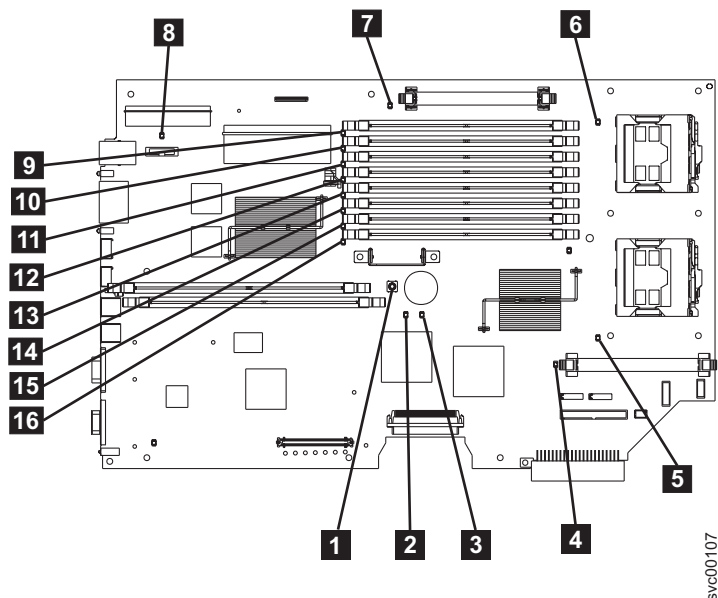

Figure 103. SAN Volume Controller 2145-8F2 and SAN Volume Controller 2145-8F4 system board LEDs
- YES** See Table 62 on page 265 and perform the action specified for the specific light path diagnostics LEDs, then go to step 3 on page 267. Some actions will require that you observe the state of LEDs on the system board or on the fan backplanes. The location of the system board LEDs are shown in Figure 103 on page 265. The fan LEDs are located adjacent to each FAN. To view the LEDs you will need to do the following:
- d. Press the light path diagnostics button **1**. See Figure 103 on page 265.